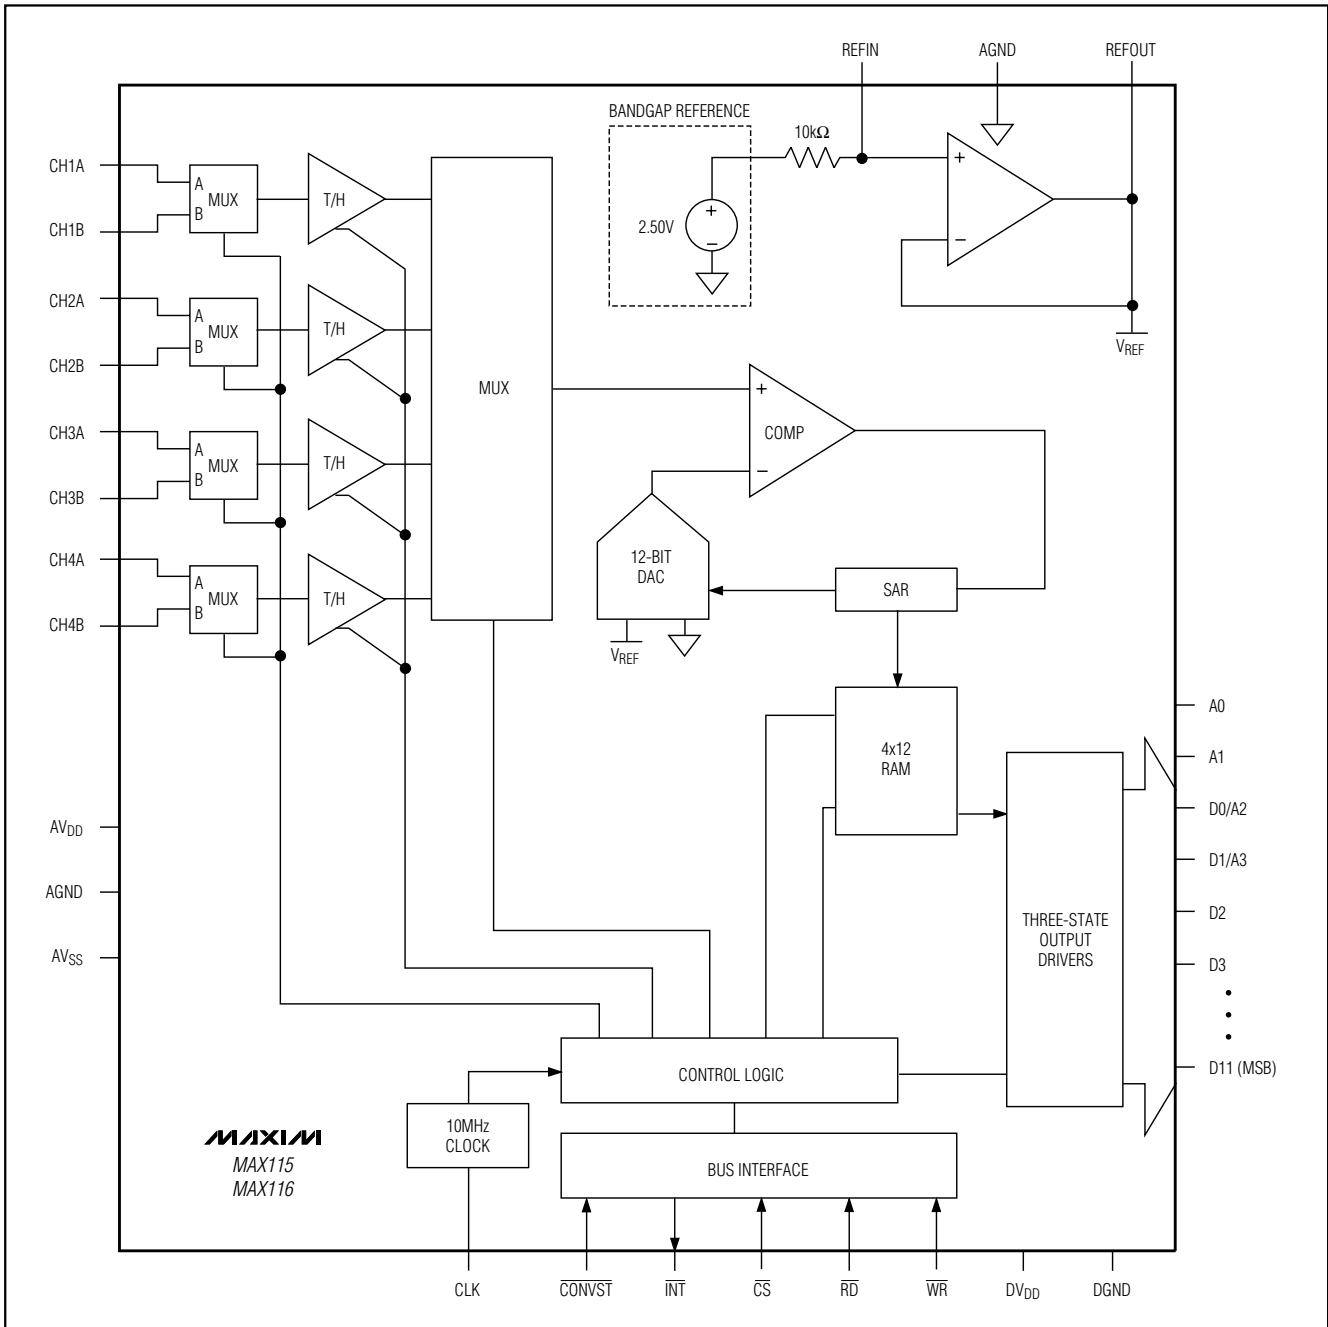

Figure 2. Functional Diagram
**Note 9:** See Figure 2.
The MAX115/MAX116 use a successive-approximation conversion technique and four simultaneous-sampling track/hold (T/H) amplifiers to convert analog signals into 12-bit digital outputs. Each T/H has two multiplexed inputs, allowing a total of eight inputs. Each T/H output is converted and stored in memory to be accessed sequentially by the parallel interface with successive read cycles. The MAX115/MAX116 internal micro-sequencer can be programmed to digitize one, two, three, or four inputs sampled simultaneously from either of the two banks of four inputs (Figure 2). The MAX115/MAX116 can operate with either an external or internal clock. For internal operation, connect CLK to DVDD.
The MAX115/MAX116 have eight conversion modes plus power-down, which are programmed through a bidirectional parallel interface. At power-up, the devices default to the Input Mux A/Single-Channel Conversion mode. The user can select between two banks (mux inputs A or mux inputs B) of four simultaneous-sampled input channels, as illustrated in Figure 2. An internal microsequencer can be programmed to convert one to four channels of the selected bank per sample. For a single-channel conversion, CH1 is digitized, and then  $\overline{\text{INT}}$  goes low to indicate completion of the conversion.